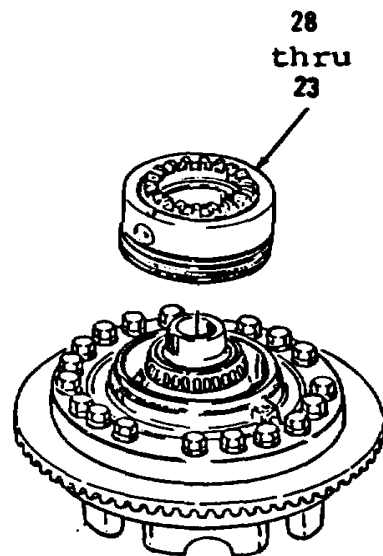

Figure 14-128.
14. Install items 28 thru 23 as an assembly (Figure 14-128).